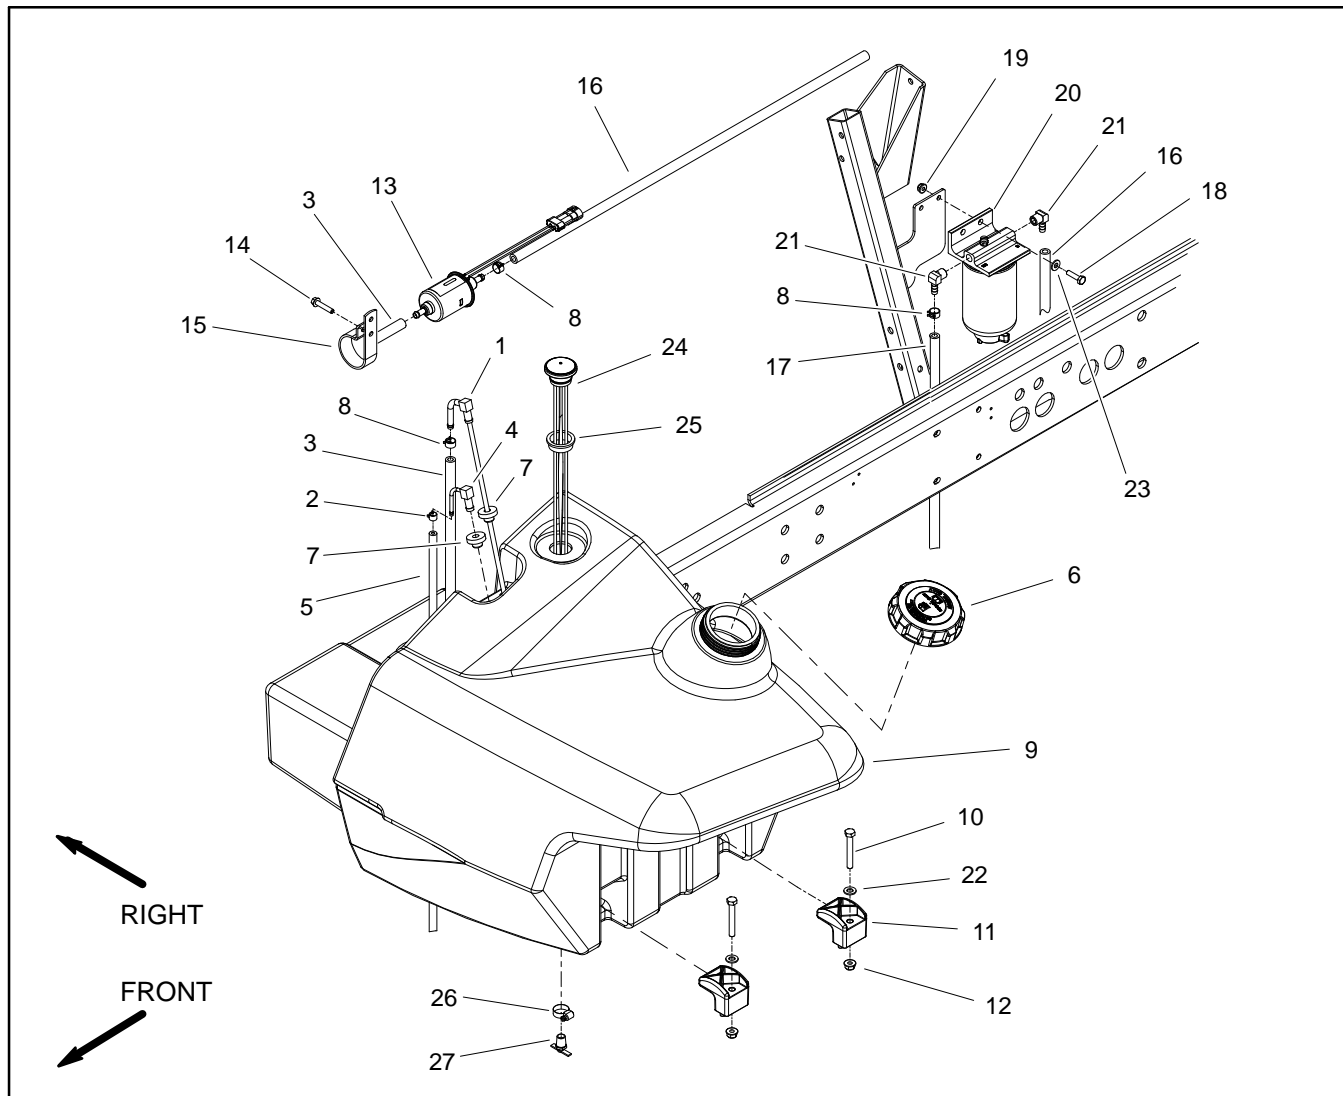

Figure 5
Fuel Tank Removal (Fig. 5)
4. Remove fuel tank from machine using Figure 5 as a guide.
Fuel Tank Installation (Fig. 5)
1. Install fuel tank to frame using Figure 5 as a guide.